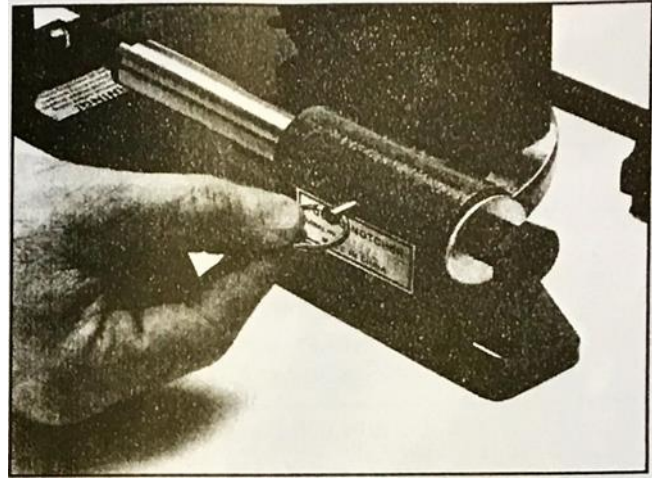

Figure 1. Pulling the pin
1. Pull the pin as shown in **Figure 1** and extract the spindle.